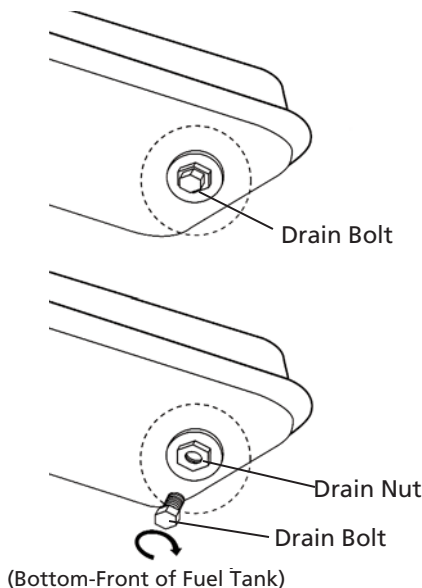

Figure 10 – Drain Bolt Reinstall
- Insert bolt's seal head fully into drain hole so that flange is flush to tank's bottom. See Figure 10.
- Insert seal cap fully into head hole so that cap flange is flush to head flange. (See Figure 10).